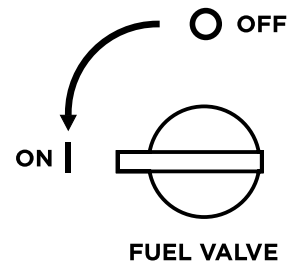

Figure 3: Fuel valve - ON
5. Turn the fuel valve switch to **ON** position (see Figure 3).